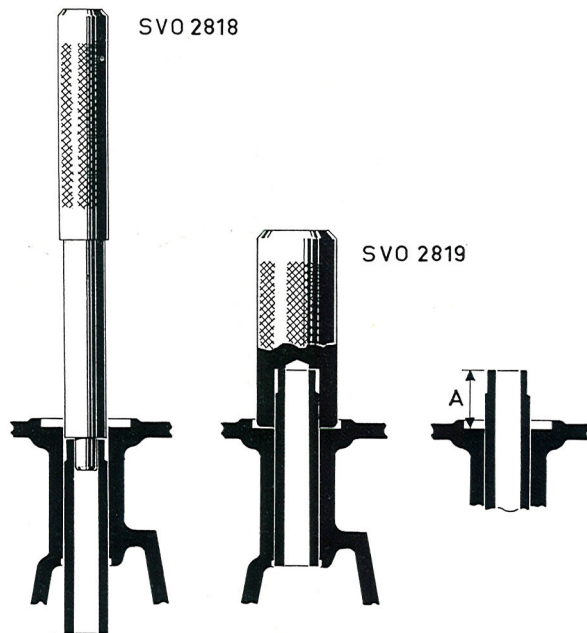

Fig. 2-28. Replacing the valve guides
2. Press in the new guides using drift SVO 2819 which gives the correct depth, see Fig. 2-28.